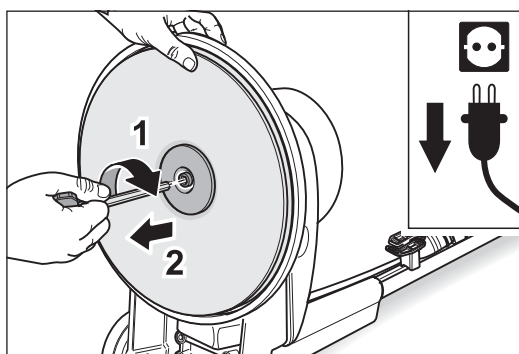

Fig. 18 Turn the screw for releasing the disc in a **clockwise** direction (it has a **LEFT-HANDED THREAD**)!
- 5 To release the paper retaining disc, turn the screw **clockwise** (**LEFT-HANDED THREAD**) with a hexagonal socket wrench. As you do so, hold the sanding plate steady (Fig. 18).